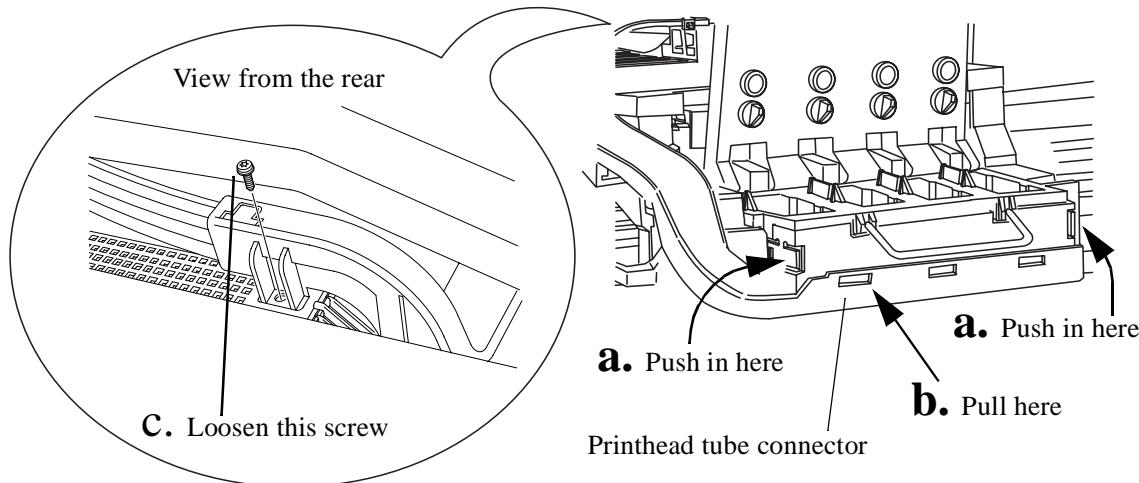

Figure 42: Carriage Assembly and Belt
NOTE For steps 3 and 4, refer to Figure 42.
4. Remove the printhead tube connector (refer to Figure 42).